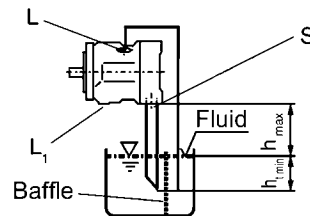

Fig. 4
b) If the minimum fluid level is equal to or below the top of the pump, pipe ports "L" and possibly "S" as Fig. 4.; close port "L₁". The conditions according to item 1.2.1.
a) When mounting above the reservoir, see Fig. 4. Conditions according to 1.2.1.